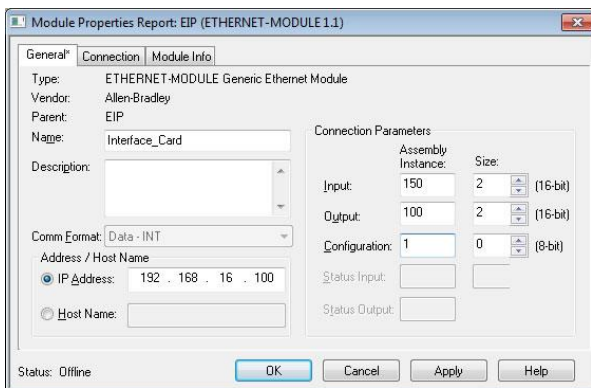

Figure 35: Interface Card Module Properties
- 4) The module properties dialog box will open (refer to Figure 35). Enter a Name which will allow easy identification of the inverter on the network (the tags created in RSLogix 5000 will be derived from this Name). Because all inverter data is stored as 16-bit function codes, change the "Comm Format" selection to "Data-INT". Enter the IP address of the targeted interface card.